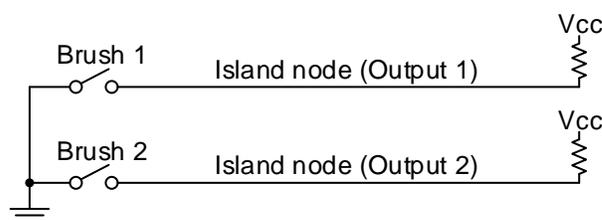

Figure 3. Typical Contact-Based Encoder
1. Contact: This relies on mechanical contacts to make or break electrical connections. Typically, the stationary component has islands of metal throughout a ring. The piece above it is free to rotate and has metal brushes that momentarily make contact with the islands, connecting them to ground. Figure 3 shows the electrical schematic.